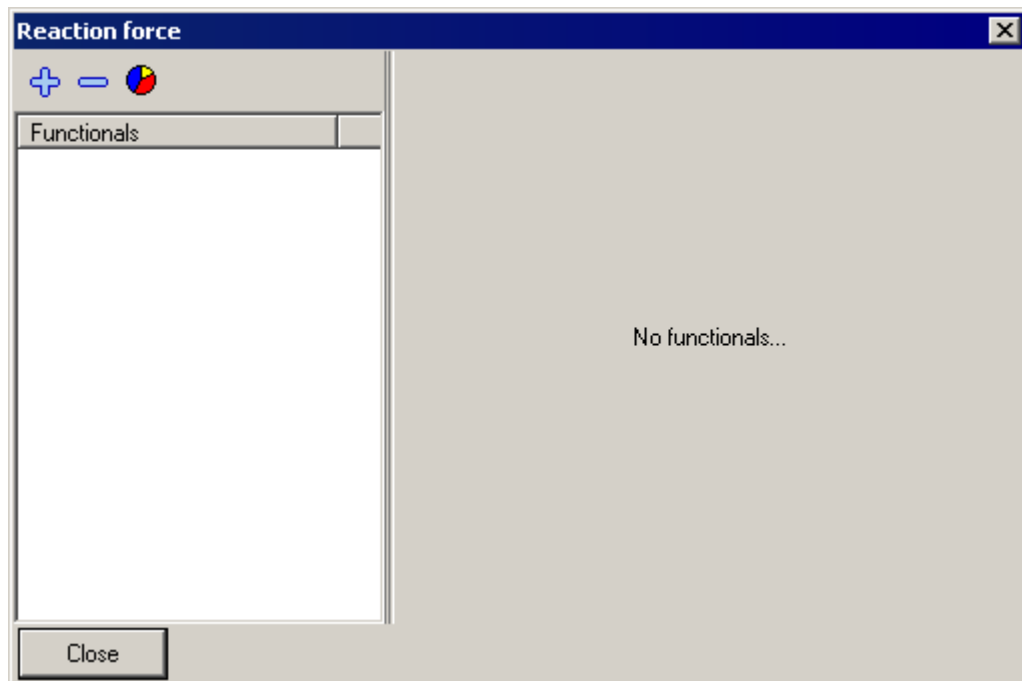

Figure 5.14. Functionals
5. Double click left mouse button on the **Reaction force** criterion on the tree of criteria or select the **Edit functional** in the context menu. New dialog window appears, see Fig. 5.14.